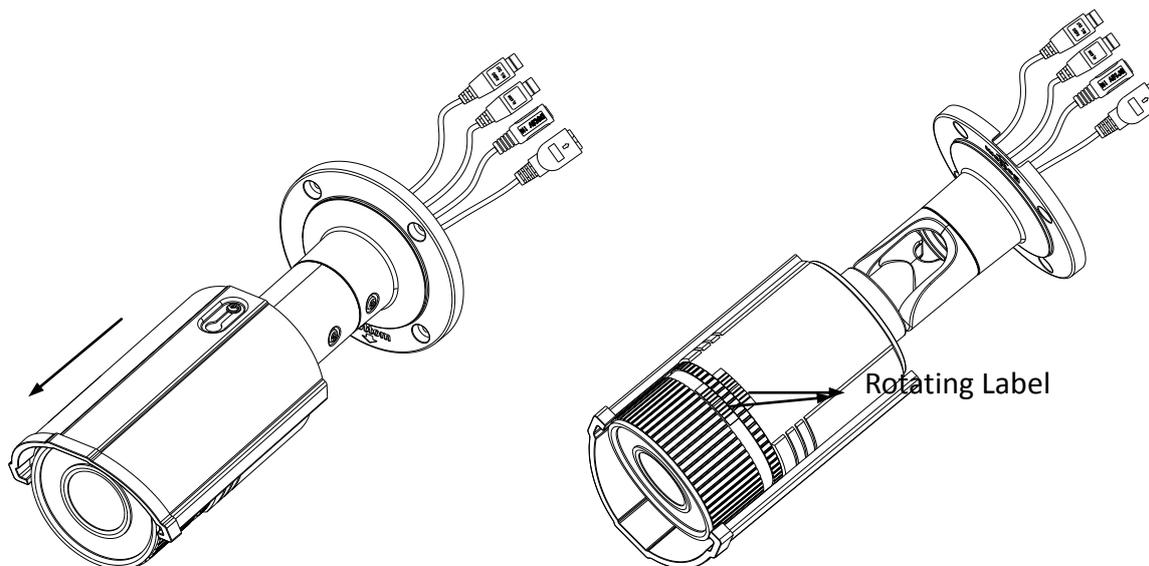

Figure 4-28 Assemble the Camera
6. Slide the sun shield according to the arrow direction as shown in Figure 4-28(left).
Note: For water-proof, please align the rotating label on the front cover with that on the camera when you rotate the front cover clockwise. Refer to Figure 4-28(right).